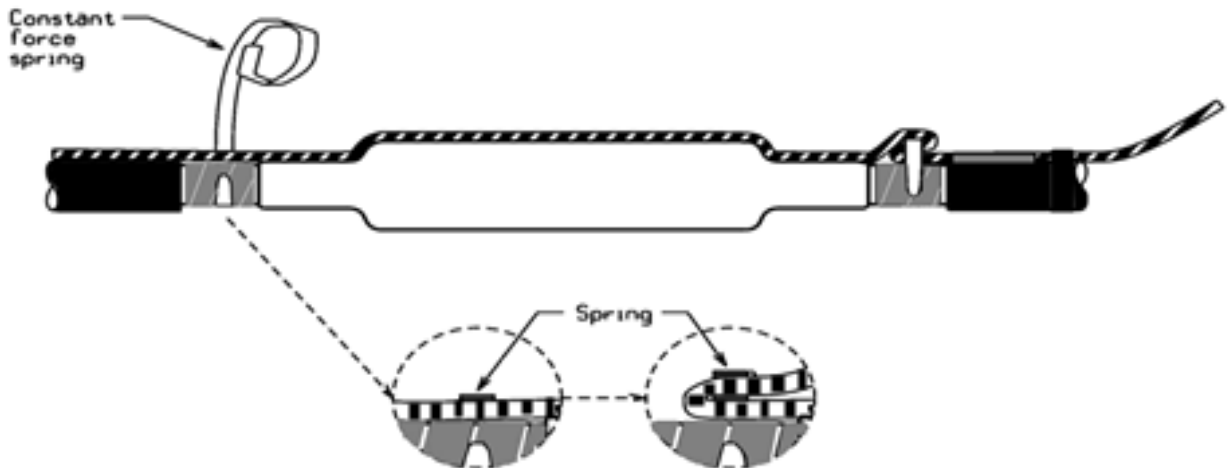

Figure 15
- Lay over tinned braid across the splice and connect to metallic shield of the other cable with a spring clamp. Vinyl tape (Std. Item T2W1) may be used to secure the braid to the splice to aid handling. Wrap a couple of layers of vinyl tape over the spring clamp to smooth out sharp edges. Refer to Figure 15